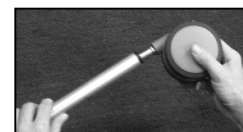

Figure 8
- Insert the casters into the socket on the bottom of the individual leg tubes (Fig 8).